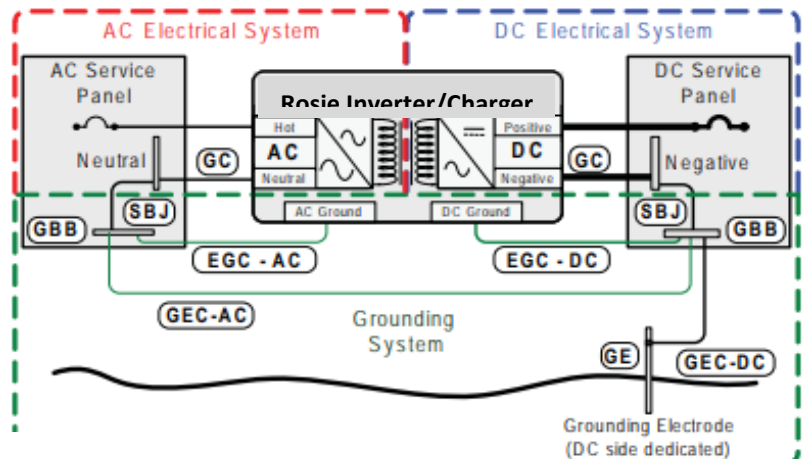
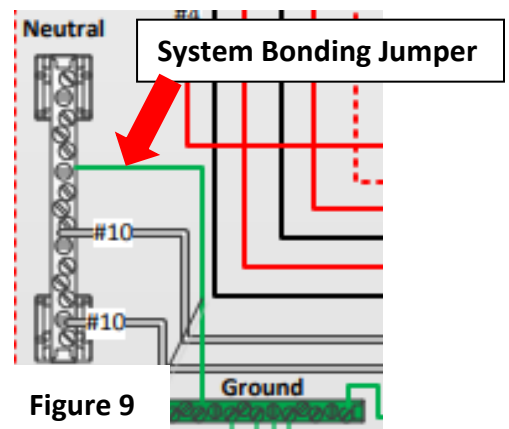

Figure 8
Figure 9
- **Equipment Grounding** – Grounding for exposed metal parts, like the inverter chassis, solar panel frames, etc. **See Figure 8.**
- **System Grounding** – The bonding of a current-carrying wire to earth ground, such as the two SBJs shown in **Figure 8** or the single SBJ shown in **Figure 9.**
Reference **Figure 8** below for grounding system terminology.
System Bonding Jumper (SBJ) – The connection between the Grounded Conductor (GC) and the Equipment Grounding Conductor (EGC). **Figure 9** shows an SBJ from a MidNite E-panel, in this case it’s a Neutral-to-Ground bond.